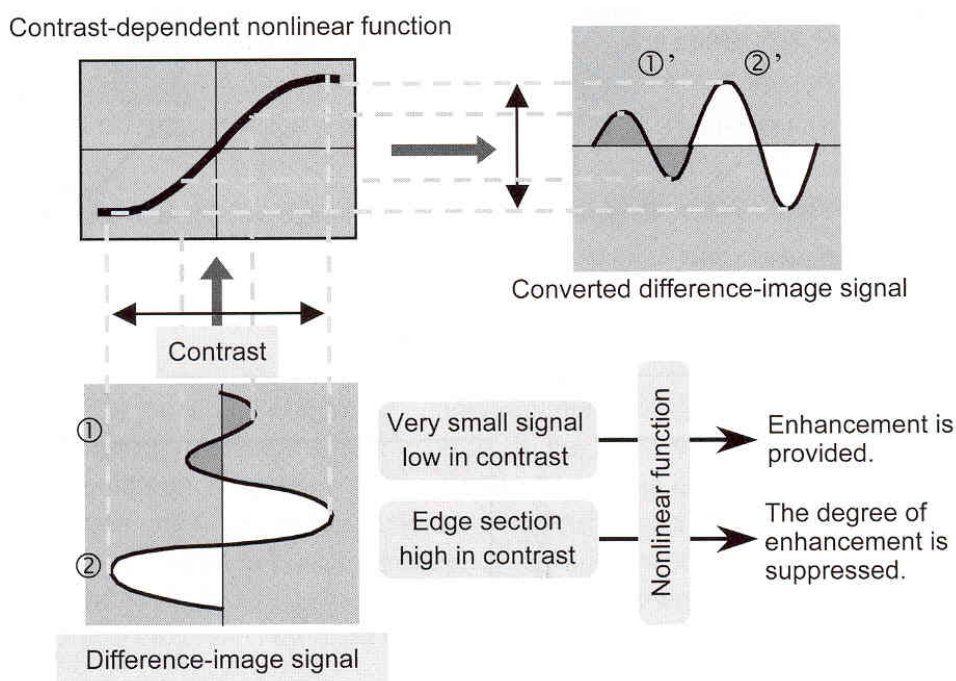

Fig. 8 Mechanism of contrast-dependent frequency enhancement
If an image containing a metal or other strong signals is enhanced by the conventional process, artifacts may be generated around the signal. The MFP suppresses such strong signals, providing the enhanced image a natural look. With reference to Fig. 8, if, for instance, a band pass signal (difference-image signal) having a relatively low contrast (as indicated by (1) in the figure) is entered in relation to the indicated nonlinear function, the resulting output signal (1)' has the same contrast as the input signal. However, if a high-contrast signal is entered (as indicated by (2)), it is converted to generate an output signal having a lower contrast (2)').